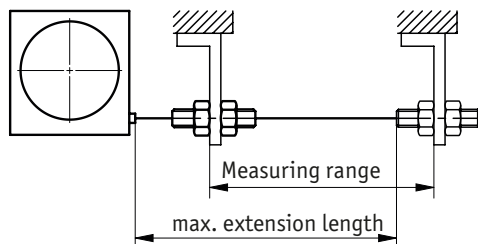

Fig. 3: Extension length check
- ▶ Do not extend the wire beyond the specified maximum extension length (see Fig. 3).
- ▶ Conduct the wire perpendicular to the wire outlet (see Fig. 3).
Mounting the wire-actuated encoder (Fig. 2, Fig. 3):
2. After mounting, check that the maximum extension length complies with the application (Fig. 3). The wire end piece / wire must be pulled out up to the planned fixation point. Wire torsion should be avoided.